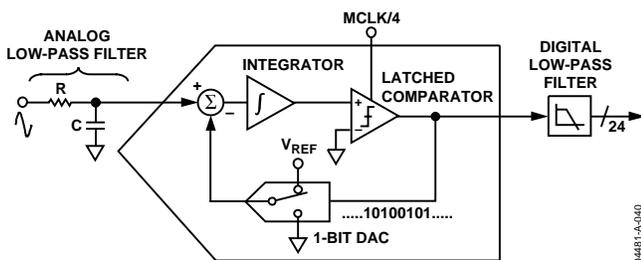
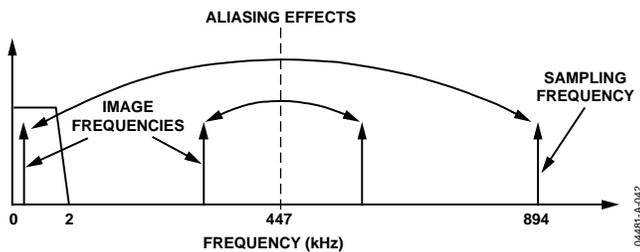

Figure 39. First-Order  $\Sigma\text{-}\Delta$  ADC
Figure 41. ADC and Signal Processing in Channel 1 Outline Dimensions
The analog-to-digital conversion is carried out using two second-order  $\Sigma\text{-}\Delta$  ADCs. For simplicity, the block diagram in Figure 39 shows a first-order  $\Sigma\text{-}\Delta$  ADC. The converter comprises two parts: the  $\Sigma\text{-}\Delta$  modulator and the digital low-pass filter.
Figure 39 also shows an analog low-pass filter (RC) on the input to the modulator. This filter prevents aliasing, which is an artifact of all sampled systems. Aliasing means that frequency components in the input signal to the ADC that are higher than half the sampling rate of the ADC appear in the sampled signal at a frequency below half the sampling rate. Figure 41 illustrates the effect. Frequency components (shown as arrows) above half the sampling frequency (also known as the Nyquist frequency, i.e., 447 kHz) are imaged or folded back down below 447 kHz. This happens with all ADCs, regardless of the architecture. In the example shown, only frequencies near the sampling frequency, i.e., 894 kHz, move into the band of interest for metering, i.e., 40 Hz to 2 kHz. This allows the use of a very simple LPF (low-pass filter) to attenuate high frequency (near 900 kHz) noise, and it prevents distortion in the band of interest. For conventional current sensors, a simple RC filter (single-pole LPF) with a corner frequency of 10 kHz produces an attenuation of approximately 40 dB at 894 kHz—see Figure 41. The 20 dB per decade attenuation is usually sufficient to eliminate the effects of aliasing for conventional current sensors; however, for a di/dt sensor such as a Rogowski coil, the sensor has a 20 dB per decade gain. This neutralizes the -20 dB per decade attenuation produced by one simple LPF. Therefore, when using a di/dt sensor, care should be taken to offset the 20 dB per decade gain. One simple approach is to cascade two RC filters to produce the -40 dB per decade attenuation.